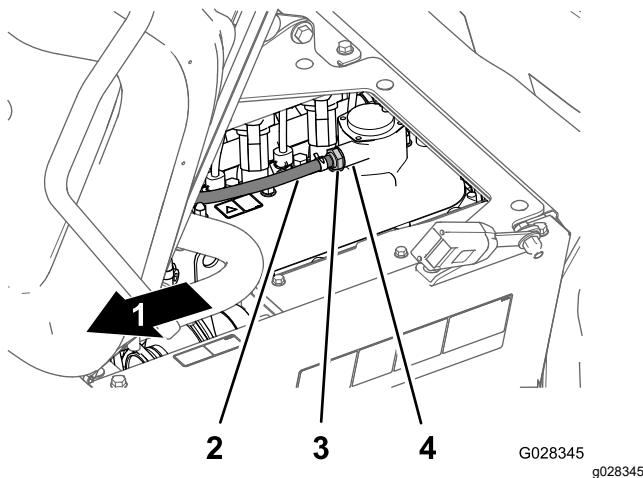

Figure 76
2. Remove the PCV valve from the fitting of the valve cover (Figure 76).
**Note:** If the internal restrictor of the valve rattles, the PCV valve is serviceable; if the internal restrictor is not free to rattle when shaken, replace the PCV valve (Figure 76).
4. Insert the PCV valve until it is fully seated in the seal for the valve-cover fitting (Figure 76).